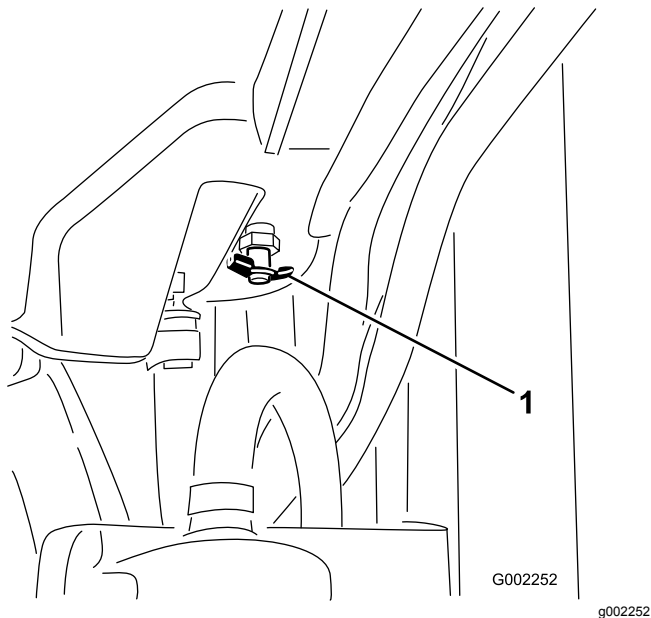

Figure 87
4. Open the drain valve and drain the coolant into the pan (Figure 87).
5. Close the drain valve (Figure 87).